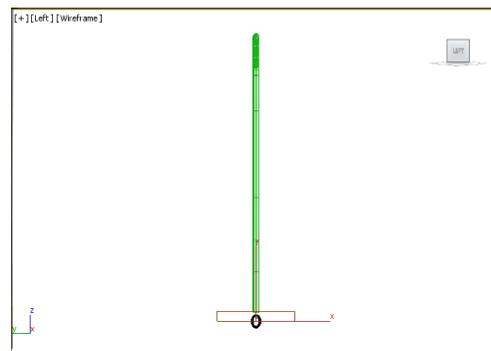

Figure 5-28 The joint displayed
- In the **Rendering** rollout, make sure that the **Enable In Renderer** and **Enable In Viewport** check boxes are selected. Also, make sure that the **Radial** radio button is selected. Next, set the value **0.05** in the **Thickness** spinner and press the ENTER key; *joint* is displayed at the bottom of the viewport, as shown in Figure 5-28.